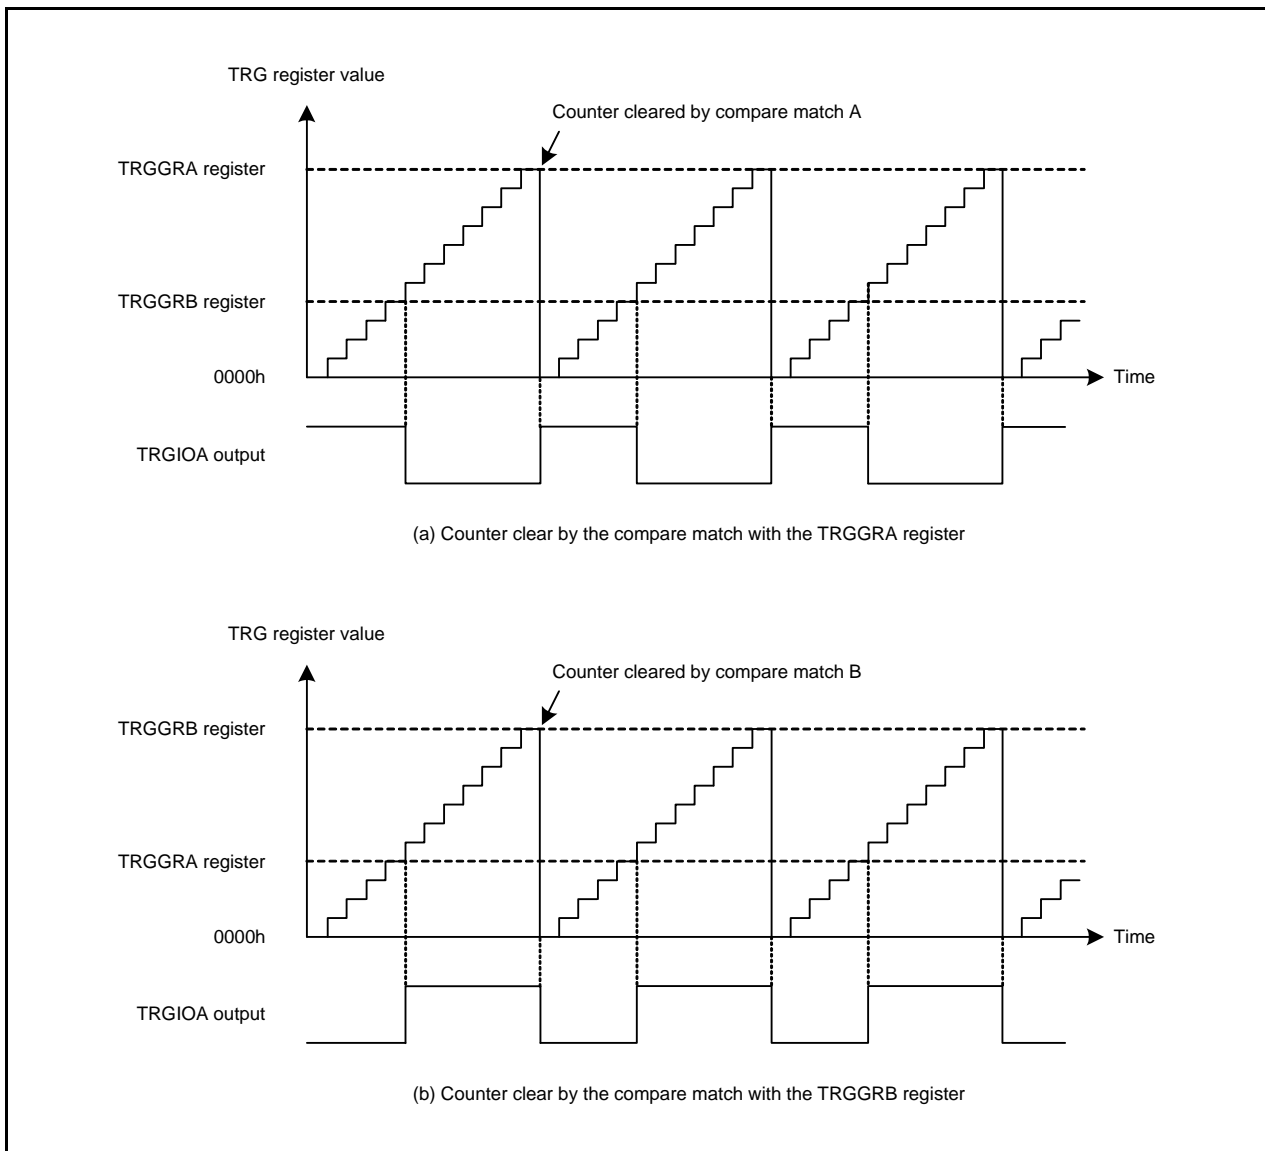

Figure 21.14 Operation Example (1) in PWM Mode
Figure 21.14 shows an Operation Example (1) in PWM Mode.